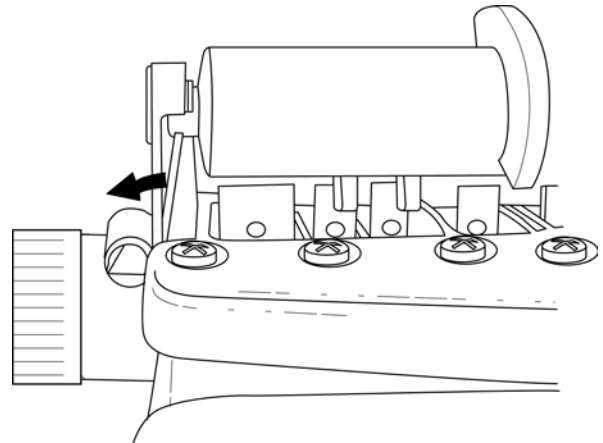

Figure 12
4. Remove the camshaft by carefully pushing the securing tab, located at the rear of the camshaft, away from the camshaft until the tab disengages from the camshaft. Push the back of the camshaft down and out to the inlet side of the valve (Figure 12).